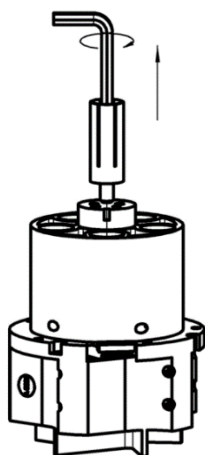

Fig. 75: Loosening the female contact
3. Use a size 8 Allen key to loosen and remove the female contact (Fig. 75).